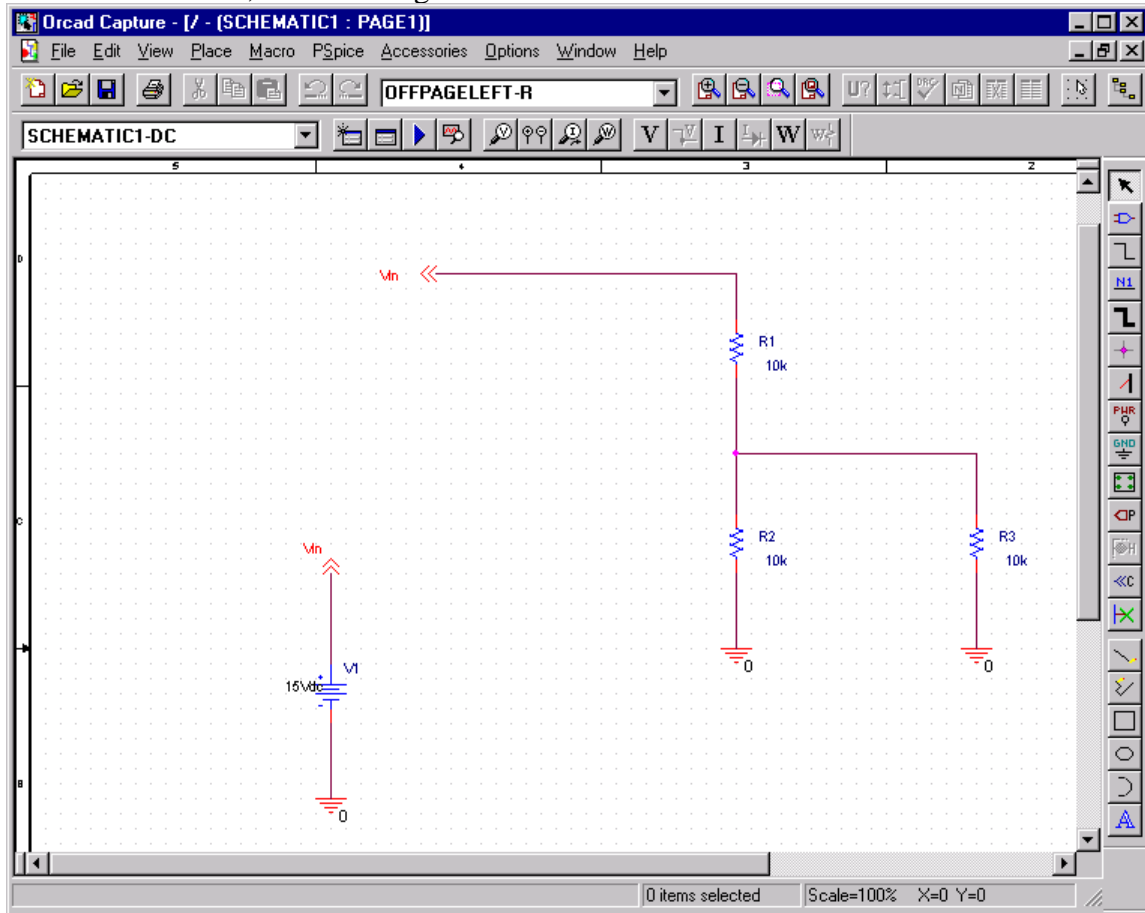

Fig. 1: Voltage Divider of Lab 1-4 with 10K load resistor. Bias point analysis
This section describes how to use Orcad Capture to create the simple voltage divider circuit of Lab 1-4, shown in Fig. 1.
6. Move the pointer to the correct position on the schematic page (see Fig. 1) and click to place the first part.
5. Place the off-page connector parts according to Fig. 1.
6. To place the ground parts (0), click the GND button on the tool palette.
8. Place the '0' ground part from SOURCE .OLB as shown in Fig. 1.
5. Continue connecting parts until the circuit is wired as shown in Fig. 1 on page 2.
Label the off-page connectors as shown in Fig. 1 on page 2.
4. Continue changing the Part Value properties of the parts until all the parts are defined as in Fig. 1 on page 2.
Your schematic page should now have the same parts, wiring, labels, and properties as Fig. 1 on page 2.